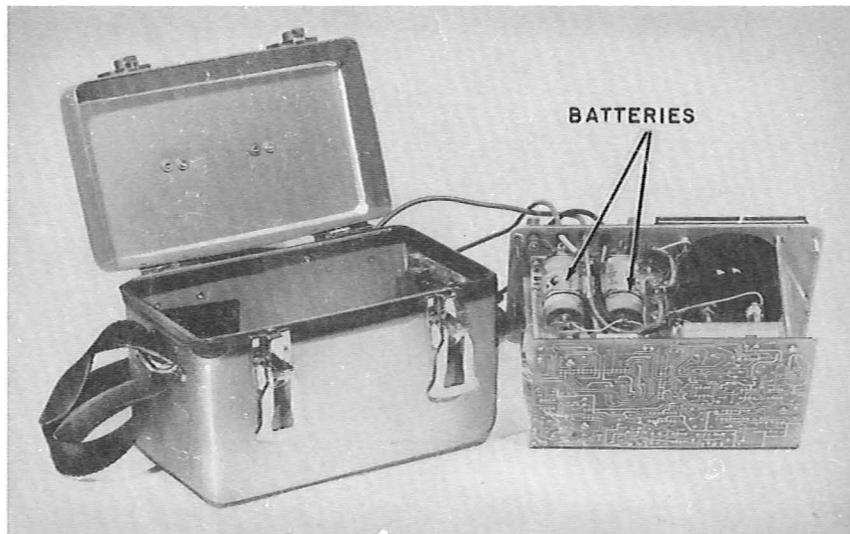

Fig. 15—Battery Replacement
- (f) Replace batteries with two KS-21617 9V batteries, Eveready* No. 226 batteries or equivalent (Fig. 15).